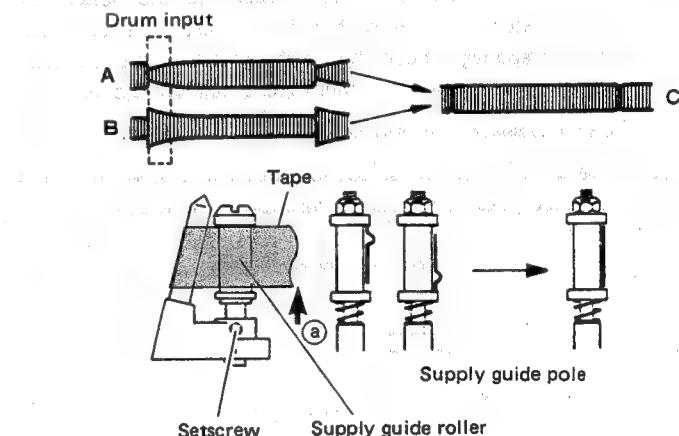

Fig. 2-45 Drum input adjustment
- Refer to Fig. 2-45. Examples of incorrect waveforms are shown by A and B. Adjust the supply guide roller so that the rising portion (drum input portion) of the waveform becomes flat as shown by C.
- Observe the top edge of the tape travels along the lower face of the upper flange and check the waveform does not fluctuate as the tape is lightly pushed up at point (a) as shown in Fig. 2-45.